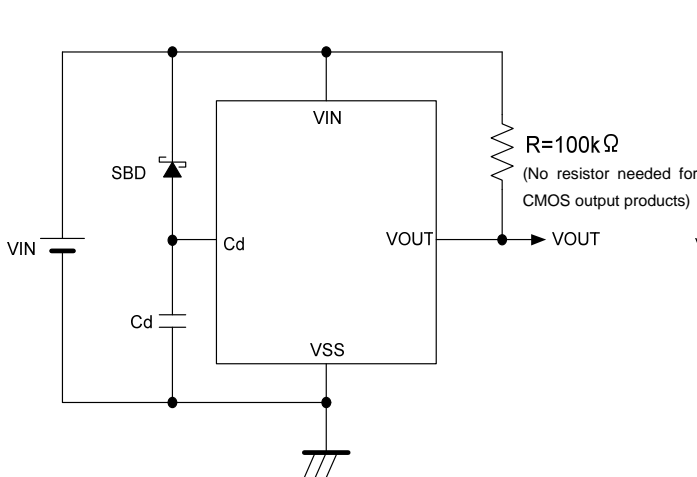

Figure 3: Circuit example with the delay capacitance pin (Cd) connected to a schottky barrier diode
* The release delay time values above are calculate by using formula (2).
5. When there is a possibility of which the input pin voltage falls rapidly (e.g.: 6.0V to 0V) at release operation with the delay capacitance pin (Cd) connected to a capacitor, use a schottky barrier diode connected between the VIN pin and the Cd pin as the Figure 3 shown below.